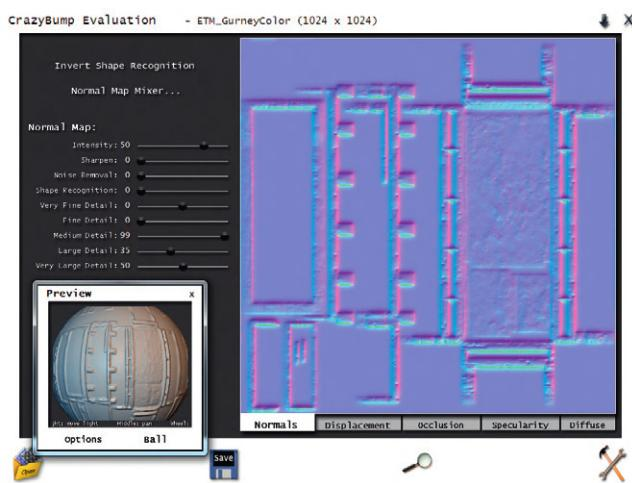

FIG 6.32 Dialing in the settings for the normal map.
Step 56: Dial the detail recognition in to get the look you’re after. Figure 6.32 shows my best guesses on the first pass. Remember, we can come back and edit these setting later, for now, give it a close look and best guess. I find that most every color texture I convert to a normal map requires at least one or two trips back into Crazy Bump to get just right.